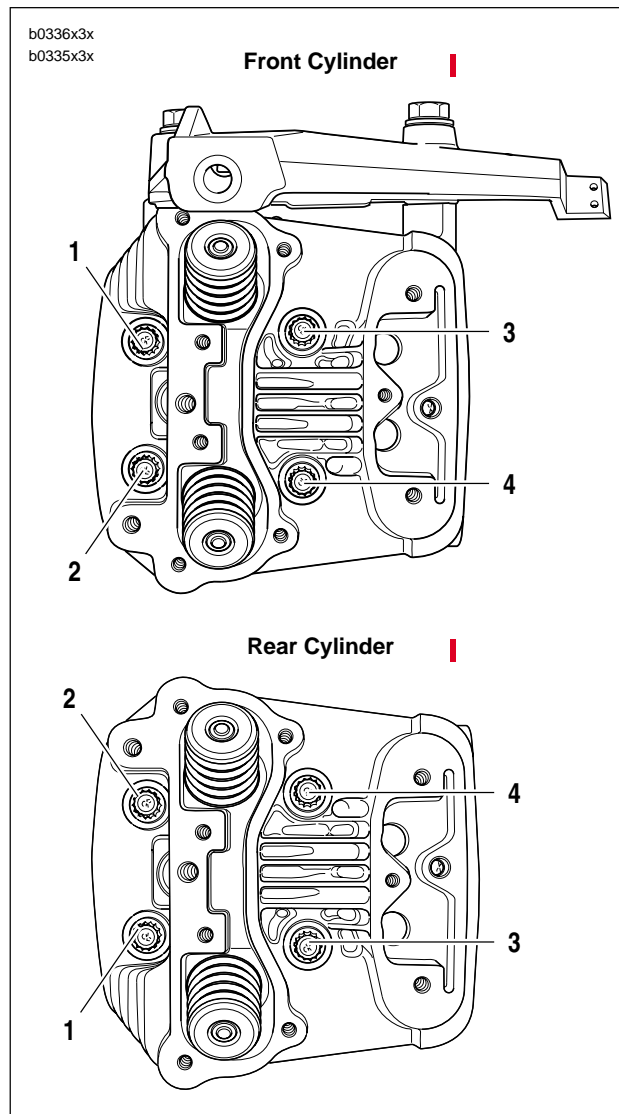

Figure 3-7. Head Screw Loosening/Tightening Sequence
Distortion to the head, cylinder and crankcase studs may result if head screws are not loosened (or tightened) gradually in the sequence shown in Figure 3-7.
9. See Figure 3-7. Loosen each head screw 1/8-turn following the sequence shown.